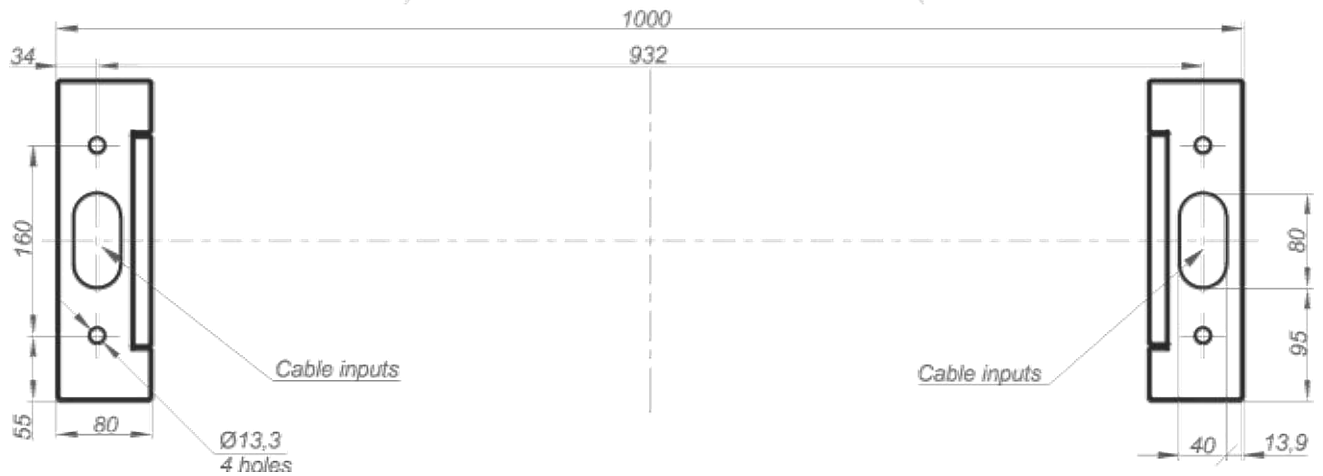

Fig. 14 – Tripod type turnstile installation marking
The turnstile fixation holes to be marked on the area surface according to Fig. 14. The turnstile itself can be used as a template, when installed upright on installation site.
When cables to be laid under the floor surface, then a cable duct to be prepared in the floor leading to the turnstile rack cable entry area. The cable entry area layout is shown in Fig.14 diagram.
- The cable outlet point to be aligned with the hole on the turnstile mountingplate (Fig.14)